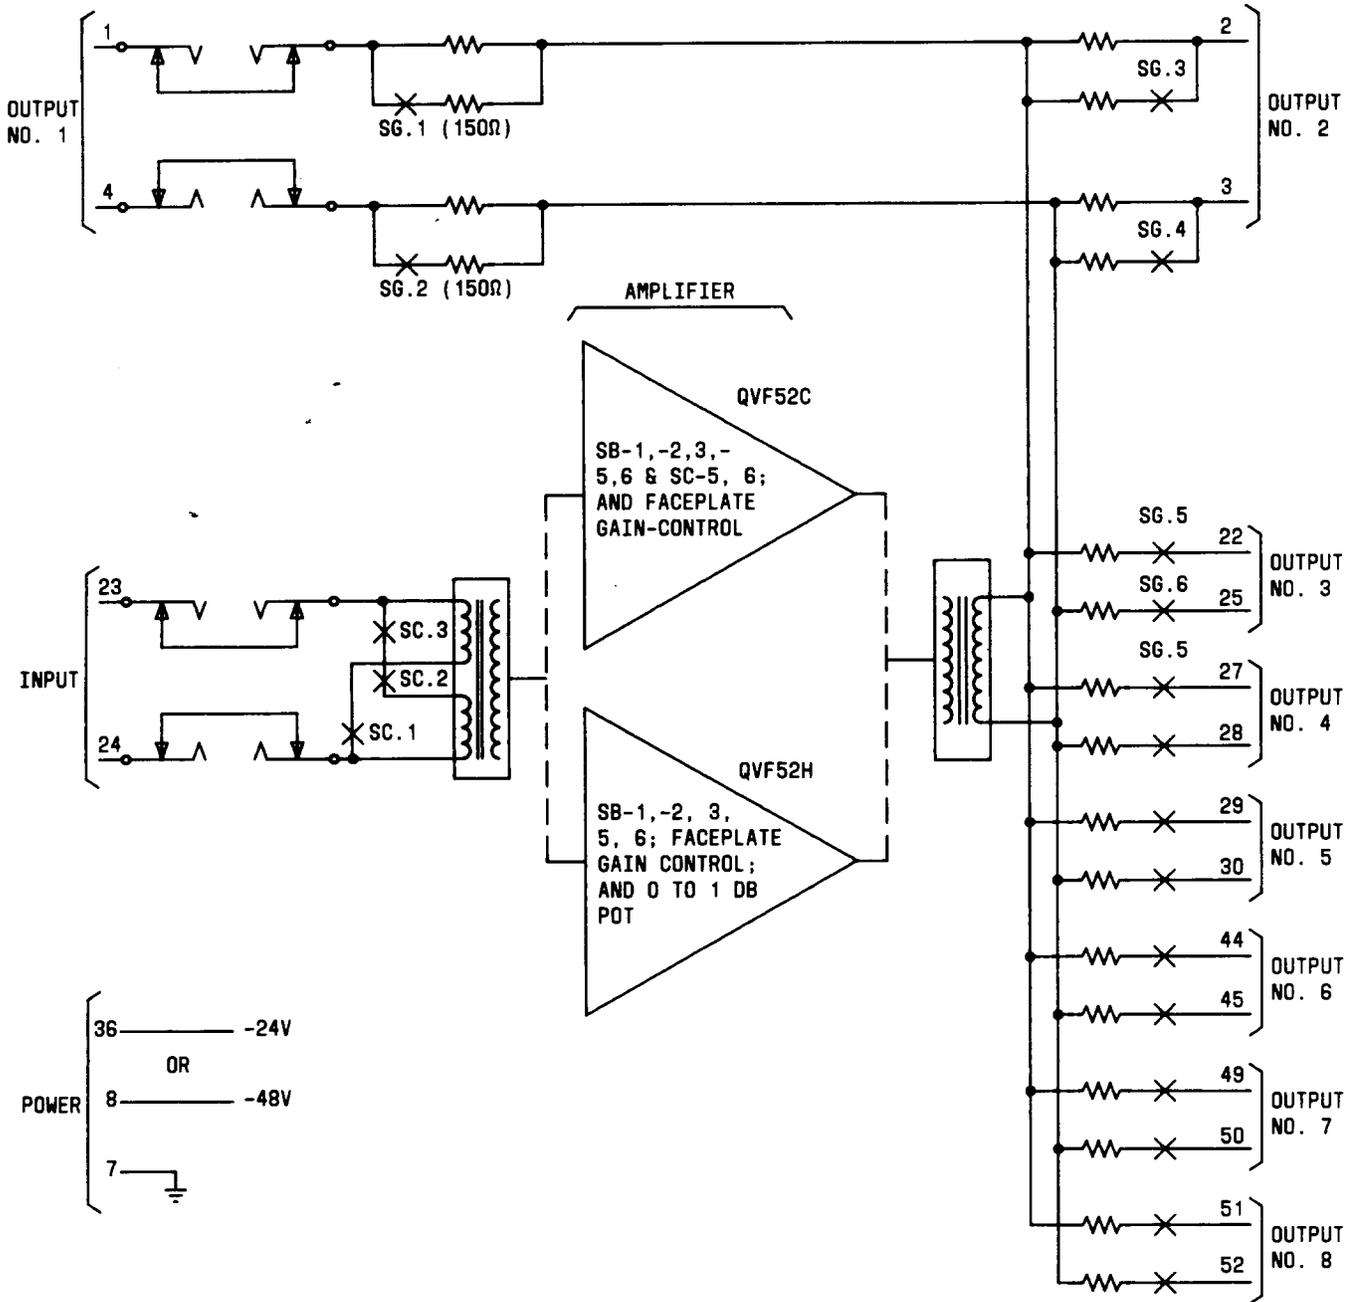

Fig. 3—QVF25C/H Simplified Functional Block Diagram
**2. DESCRIPTION (See Fig. 3)**